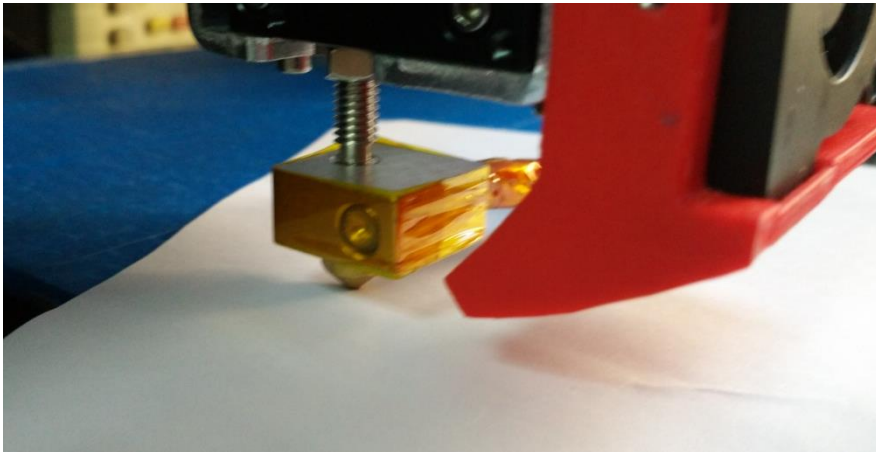

Fig1: check height between extruder head and bed
3. For the convenience of adjusting the gap between extruder head and print platform, Please try to use an A4 paper to drag between them if moving smoothly (**Fig 1**).